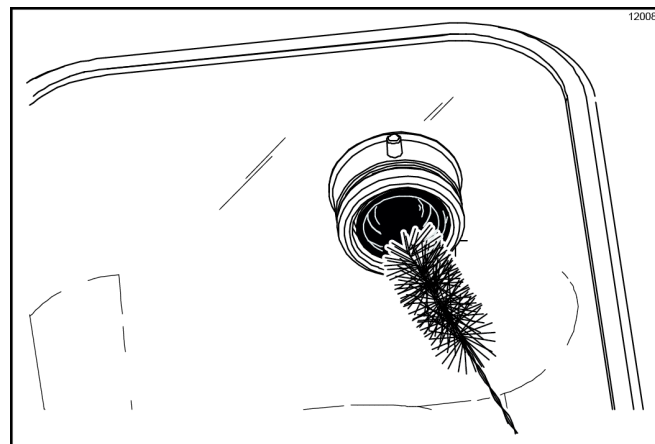

Figure-109
- Using the black brush, clean the drive hub openings in the rear wall of the mix hoppers. (See Figure-109.)